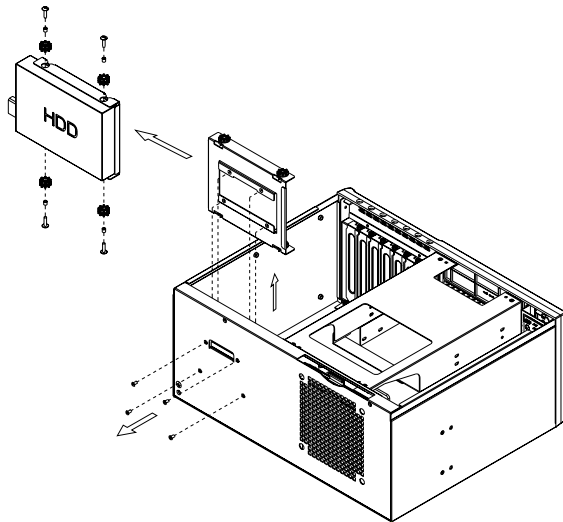

Figure 2.8: Installing the internal 3.5" disk drive
6. There is another disk drive bracket fixed on the inside of the rear plate. If users want to install a 3.5" HDD, simply unfasten the four screws from outside of the rear plate and then remove it from the hook. (see *Figure 2.8*)